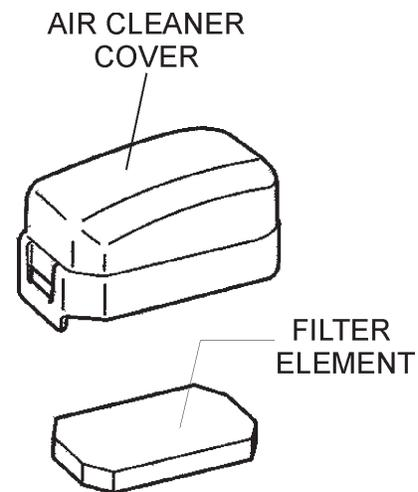

Figure 20. Engine Air Cleaner
1. Remove the air cleaner cover and foam filter element as shown in Figure 20.